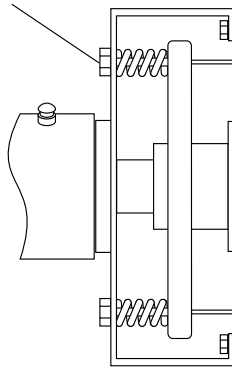

Figure 29. Drum Seal Adjusting Nuts
2. As the seals naturally wear, material will seep from the drum head. Tighten the adjusting nuts equally until a slight pressure is felt (Figure 29). The seals are now tight. This procedure should be done periodically as the seals leak.